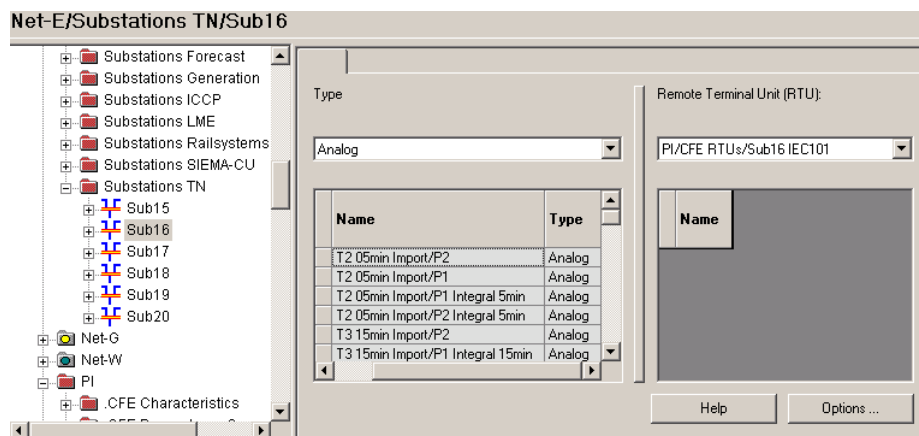

Figure 3-2.47: Communication Editor Before Links Have Been Created
2. Select Communication Editors / CFE as shown in Figure 3-2.47